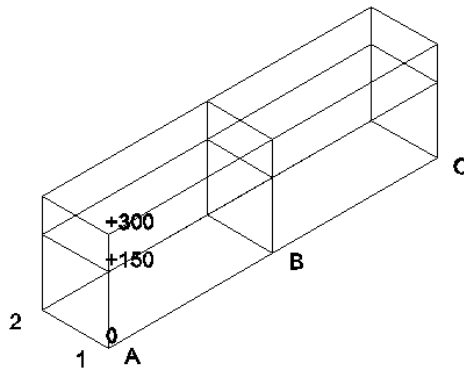

Figure 3-28 Model after creating the grid
3. Next, choose **Create**; the grid is created, as shown in Figure 3-28. Note that view orientation in the figure is set to **SW Isometric**. You can set the view orientation to **SW Isometric** by choosing the **SW Isometric** option from the **3D Navigation** drop-down list in the **View** panel of the **Structure** tab.